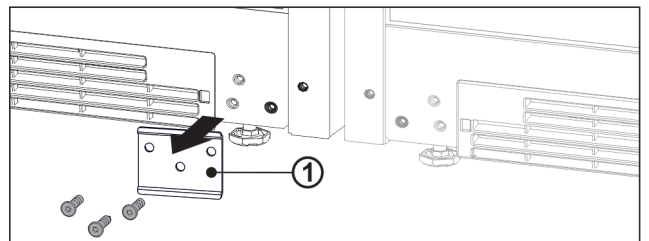

Fig. 17
- ▶ If the metal plate Fig. 17 (1) is installed, unscrew the metal plate.